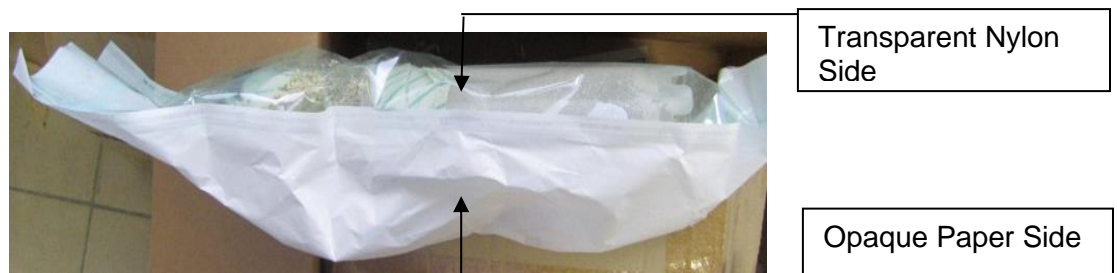

Figure 17 – Loading pouched items
5. Arrange and always keep the opaque paper side of one pouched item attached and facing that of the transparent side of the next pouched item. Do not stack pouches on top of each other. (See Figure 17)